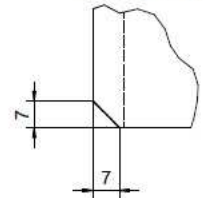

Figure 2: ARTIC JOINT SEAT PEDESTAL INSTALLATION
4. Grind the bottom front side of the seat pedestals as shown (Z) in Figure 2.
5. Weld the bottom plates NF P/N: 6445430, existing pedestals and side gussets NF P/N: 6445431 onto the Artic Joint hoop beam on both sides as shown in Figure 1 and Figure 2. Follow welding procedure in Appendix A.